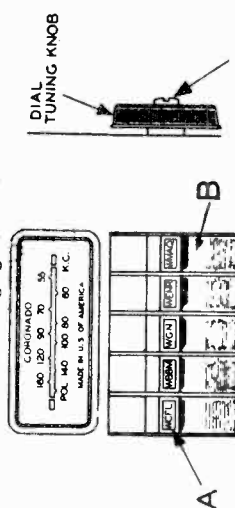

FIG. 2—FRONT VIEW
There are five levers on the dial by means of which five stations may be selected. (See "B" Fig. 2)
On the front of each automatic tuner button an opening is provided for inserting the call letter tabs. (See "A" Fig. 2).
Now rotate the tuning knob (No. 2) to the right (clockwise) as far as it will turn, and with a coin (half dollar), tighten the special locking screw (C) in the center of the tuning knob. (See Fig. 2).